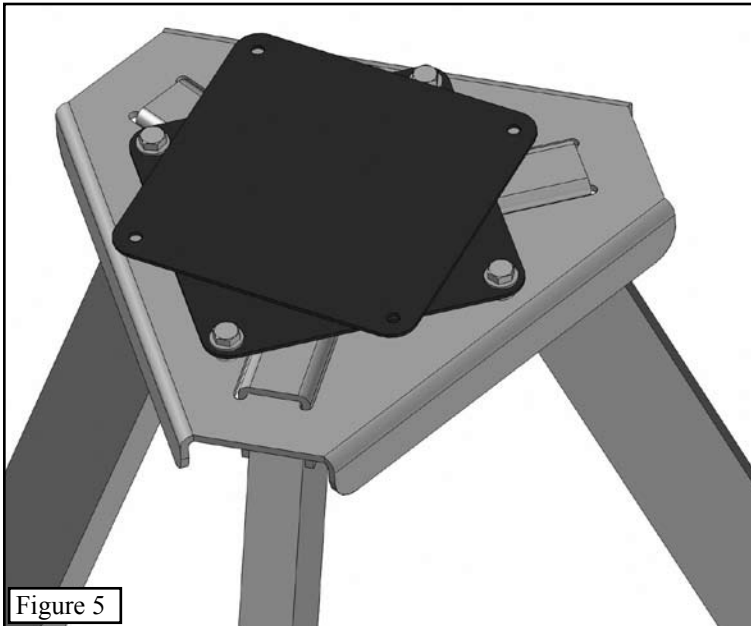

Figure 5
**Step 6.** Repeat 3 more times with three more 1" bolts, washers, spacers and lock nuts as shown in **Figure 5**.